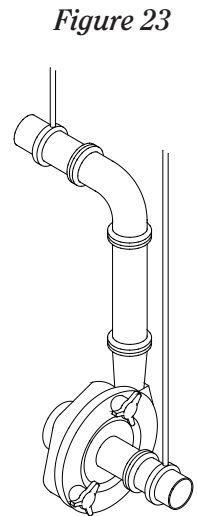

Figure 23
- Ensuring proper piping support and alignment at both the suction inlet and discharge outlet can help prevent serious damage to the pump housing (Figure 23).